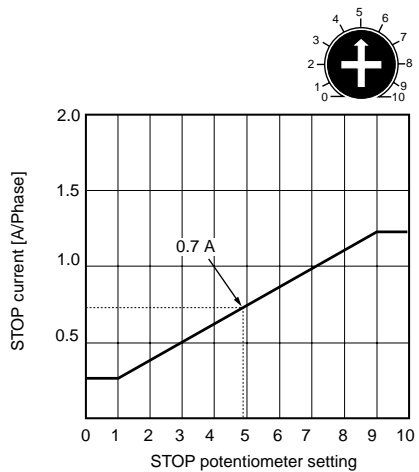

Figure 13 STOP Potentiometer Settings
3. Connect the power supplies, turn on the 5 VDC and 24 VDC and adjust the STOP potentiometer to the desired STOP current value of the appropriate graph in Figure 13.